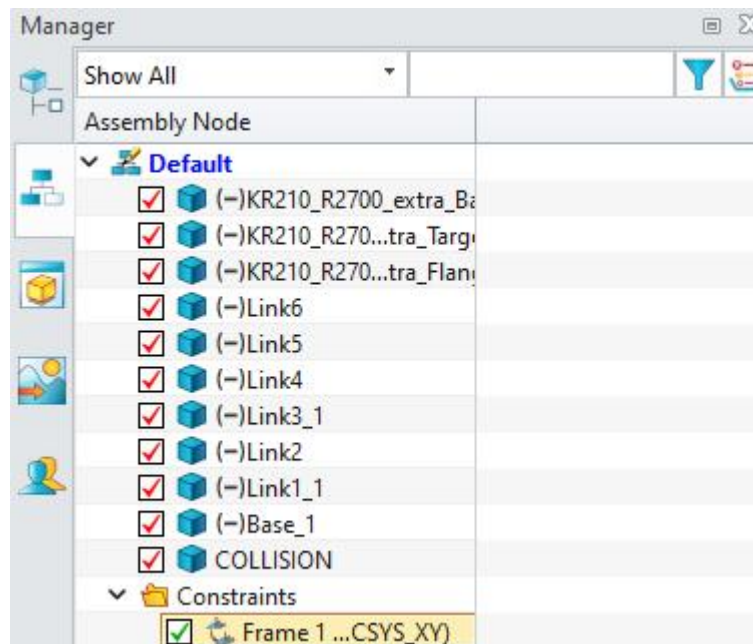

Figure 11-7: Delete Constraint
- Right click to delete the coordinates under the constraint. Deleting the coordinates will also delete the constraints. (Figure 11-7)